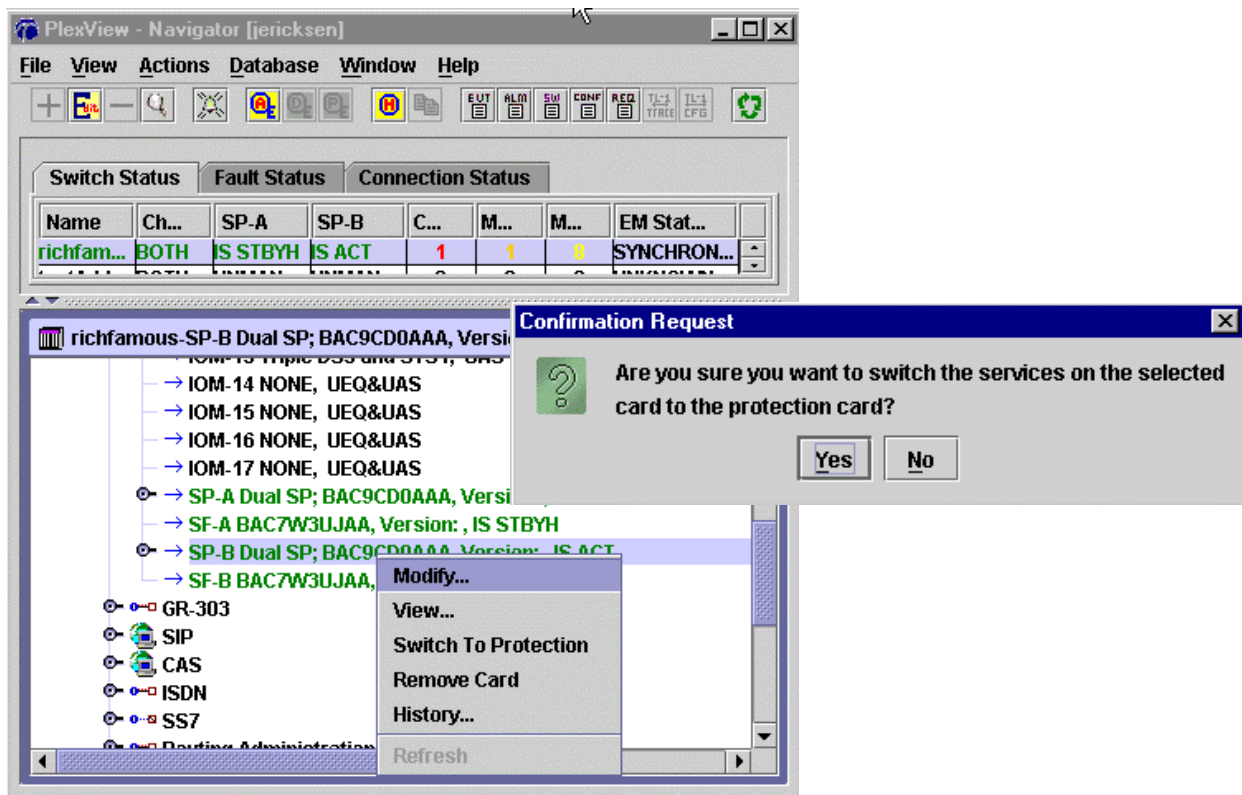

Figure 6. Switching a System Processor
40. Double-click the switch to select it for the main panel and then double-click *Cards*. Right-click the desired SP and then select *Switch to Protection*. A confirmation screen appears. Select *Yes* to switch the SP. See Figure 6.